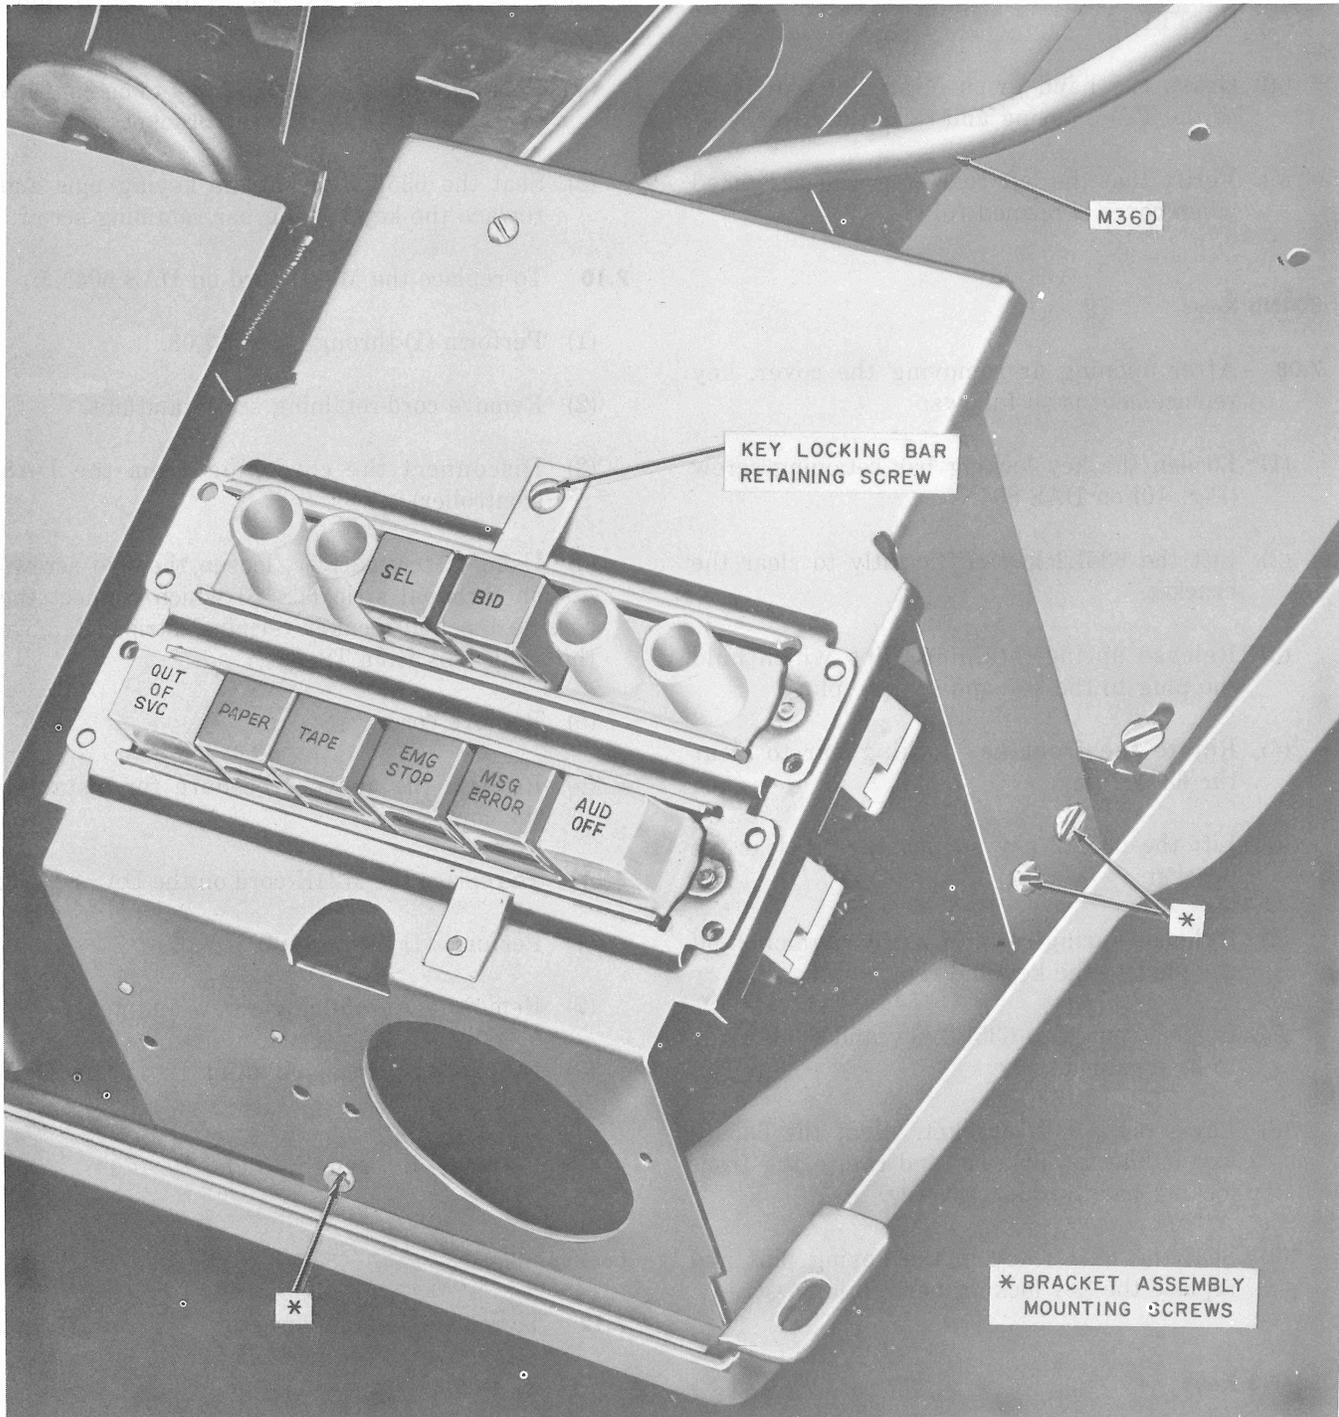

Fig. 10—DAS 804N5 Mounted in a 35 ASR TTY Showing Mounting Screws and Key Retaining Screws
- (1) Loosen the key locking bar retaining screw (Fig. 10) on DAS 804N5.
- (2) Lift the 635L2 key sufficiently to clear the bracket.
- (3) Release spring-retaining clips which hold the plug to the key and remove plug.
- (4) Rotate the front key locking bar to clear the 634M2 key.
- (5) Lift the 635M2 key sufficiently to clear the bracket.
- (6) Release spring-retaining clips which hold the plug to the key and remove plug.
- (7) Connect plugs to 635L2 key and 635M2 key to be installed.
- (8) Lower keys into bracket. Seat the 635M2 key in the keying pins and rotate the front key locking bar to retain the key.
- (9) Seat the 635L2 key in the keying pins and replace the key locking bar retaining screw.